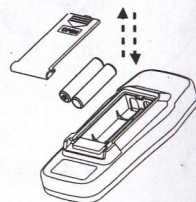

Figure 3
2. Install the anode and cathode of the battery correctly, in order to avoid the damage of the remote control because of the electrode error. (See figure 3)